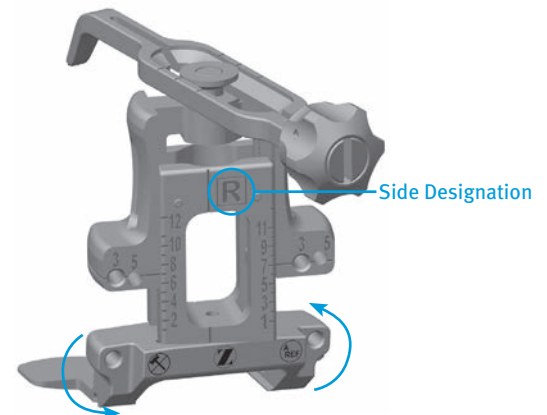

Fig. 36
- Rotate the feet of the anterior referencing femoral sizing guide so the appropriate “Left” or “Right” markings are visible as the femoral sizing guide is placed on the bone (Fig. 36). External rotation can be set at 3° or 5° from the posterior condylar axis.